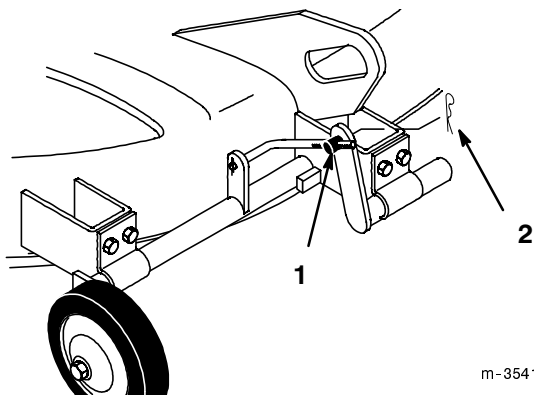

Figure 12
4. Raise attachment lift lever to release pressure on the gage wheels. Remove 1-7/16 in. hairpin cotter from trunnion (Fig. 12).
5. Rotate trunnion to adjust side-to-side level adjustment (Fig. 12).